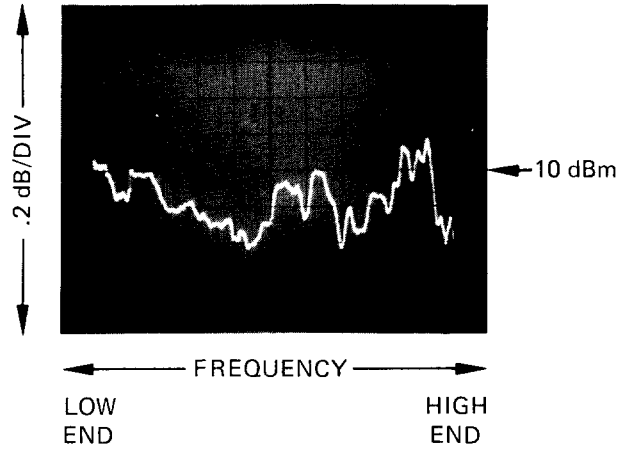

Figure 4-7. Leveled Power
- i. Verify that the peak-to-peak ripple on the 560 trace is <1.8 dB; see Figure 4-7.